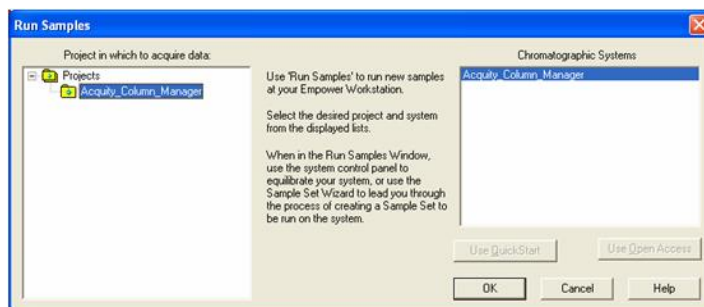

Figure 9
- 5.6. Select (if not already selected) the Acquity_Column_Manager project and System. Click OK. This will launch the 'Run Samples' window (see Figure 9).